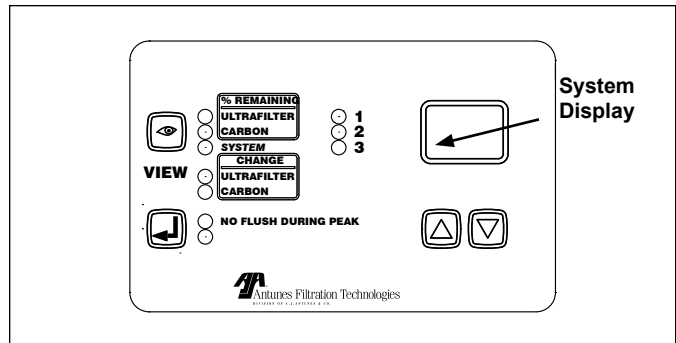

Figure 14. TAP System Control Panel
4. Enter the **06** program. Press and hold (in order) the **VIEW**, and **▲** buttons until the red **SYSTEM** LED illuminates and “ -- ” appears on the display (Figure 14).